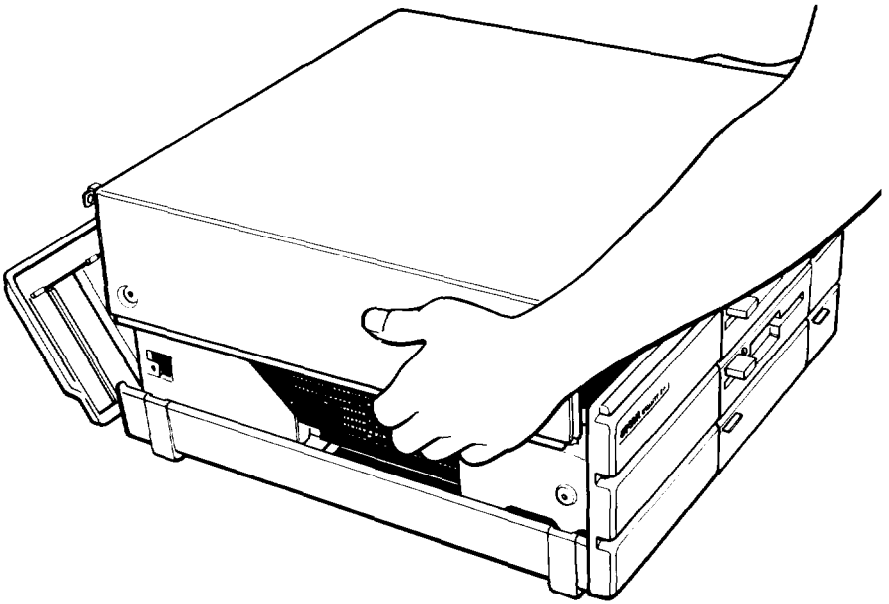

Figure 3-3. Removing cover
4. Tilt the cover up slightly from the back and pull it toward you and away from the main unit, as shown in Figure 3-3. Set the cover aside for now.